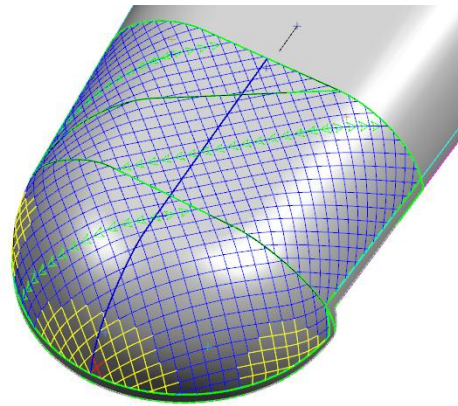

Figure 4–44
10. Run Net Producibility on the spliced plies, **P007-A**, **P007-B**, and **P007-C**. The results display as shown in Figure 4–44.